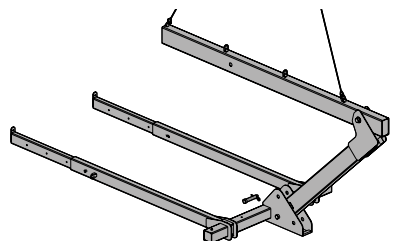

Fig. 5.3 (schematic representation)
- The transport spreader can now be pulled up completely using the crane (Figures 5.3 and 5.4).